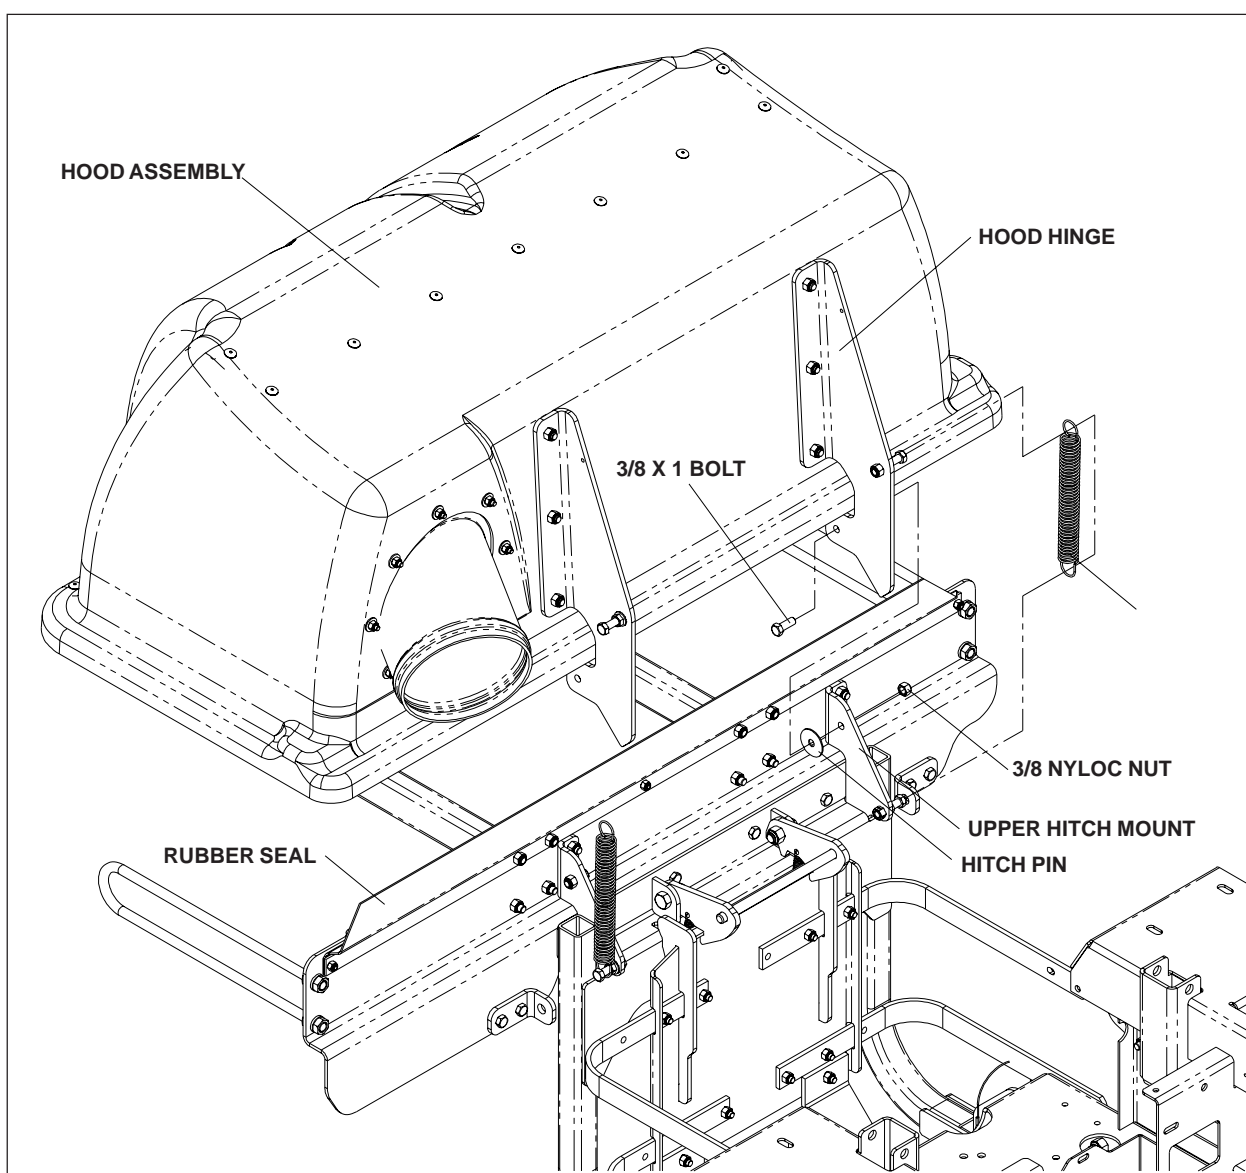

FIGURE 4
7. Place the hood assembly on to the hitch assembly. Place both hood hinges between the upper hitch mounts on the hitch assembly. Be sure that the rubber seal is on the inside of the hood. Place the (2) friction washers between the hood hinge and the upper hitch mount. Place (2) 990563, 3/8 x 1 bolt thru the hinge and mount. Secure with (2) 976979, 3/8 nyloc nut. Figure 4.
8. Open the hood and secure the (2) springs to the bolts on the hood assembly and the hitch assembly. Figure 4.